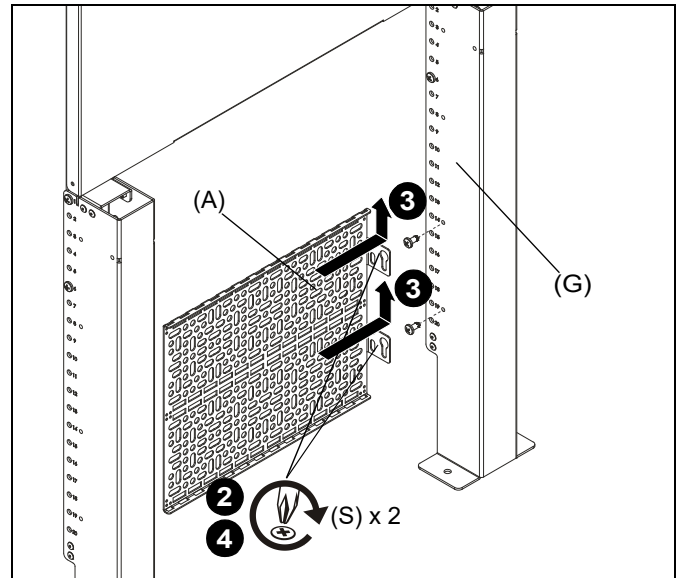

Figure 18
1. Install components to component storage panel (A) using appropriate hardware (not included) for each component. (See Figure 18)
2. Loosely install two 1/4-20 x 1/2" Phillips pan machine screws (S) to either bottom upright (G) at desired mounting location. (See Figure 18)
3. Use teardrop mounting holes to install component storage panel (A) onto installed screws (S). (See Figure 18)
4. Tighten screws (S) to secure panel (A) to upright (G). (See Figure 18)